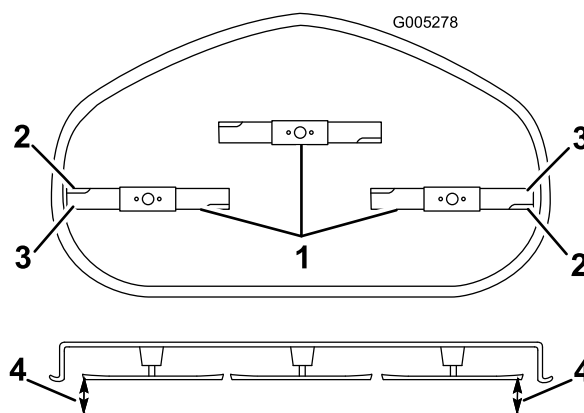
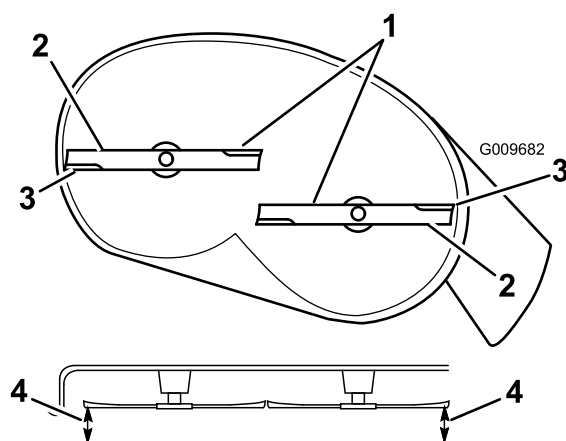

Figure 49
Figure 48
5. Measure between the outside cutting edges and the flat surface (Figure 48 and Figure 49).
4. Carefully rotate the blades so that they are all side to side (Figure 48 and Figure 49).